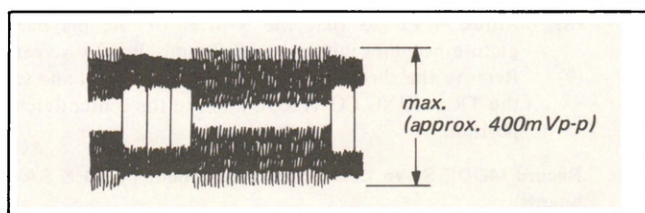

Fig. 4-7. RF output waveform
- (1) Play back the color bar (β II mode) segment.
- (2) Connect the oscilloscope to TP4 on the RP-1 board.
- (3) Adjust the TRACKING knob so that the waveform amplitude becomes maximum. (See Fig. 4-7.)